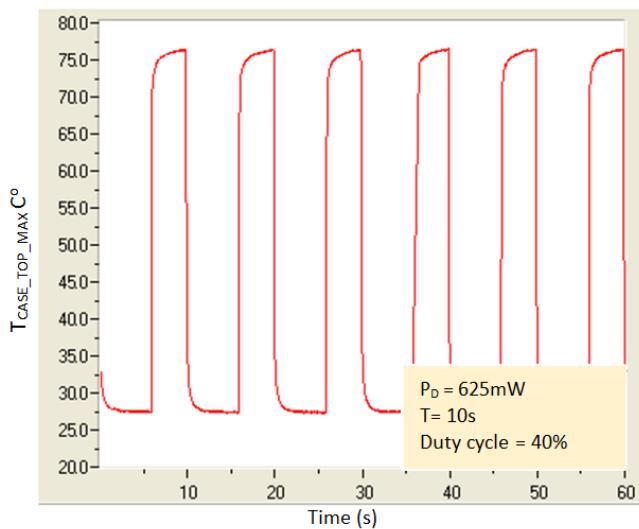
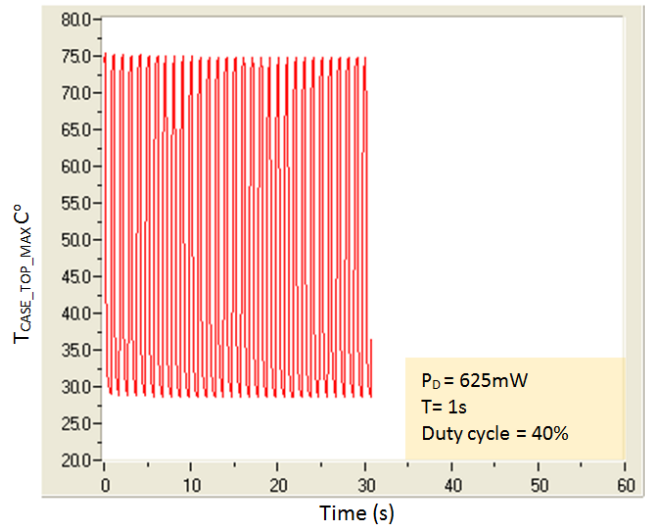
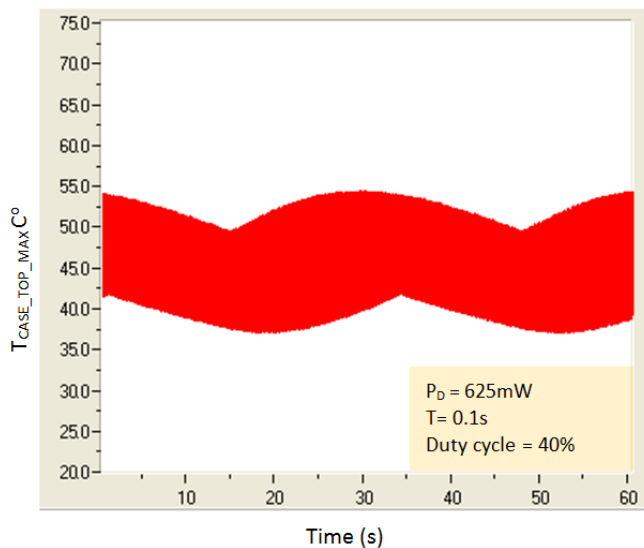
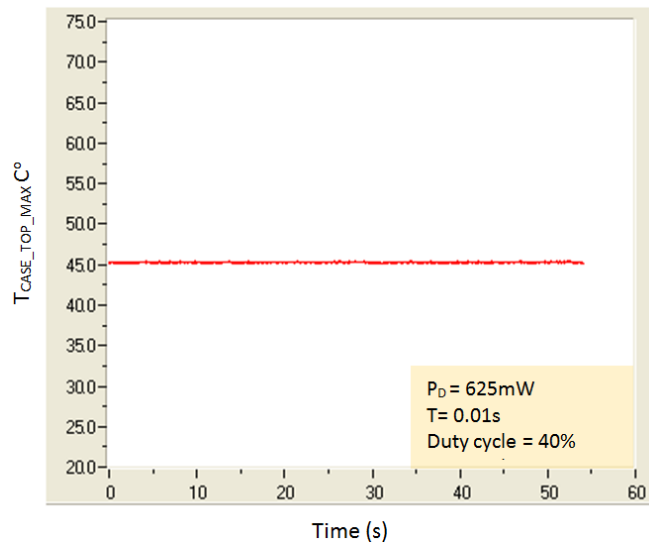

Figure 14. Load Pulse Duration 4s
Figure 15. Load Pulse Duration 400 ms
Figure 16. Load Pulse Duration 40 ms
Figure 17. Load Pulse Duration 4 ms
- The device was evaluated under four load duty cycles conditions: 4s, 400 ms, 40 ms and 4 ms tuned to achieve various ON time scenarios as shown in Figure 14 , Figure 15, Figure 16, and Figure 17.
- The device case temperature was continuously measured as shown in Figure 14 , Figure 15, Figure 16, and Figure 17.